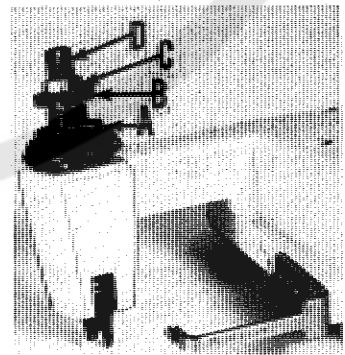

Fig. 2
Sufficient presser foot pressure to feed work uniformly should be maintained. Should it be necessary to increase or decrease amount of pressure on presser foot, loosen lock nut (A, Fig. 2) and turn adjusting screw (B). Adjusting screw has a right hand thread so tightening increases pressure, loosening decreases pressure. When pressure adjusting screw (B) has been properly set, tighten lock nut (A). With presser foot resting on throat plate, position locking nut (C) so that its under surface is approximately 1/32 to 1/16 inch (.79 to 1.59 mm) from the top surface of adjusting screw (B). Set cap (D) against locking nut (C).